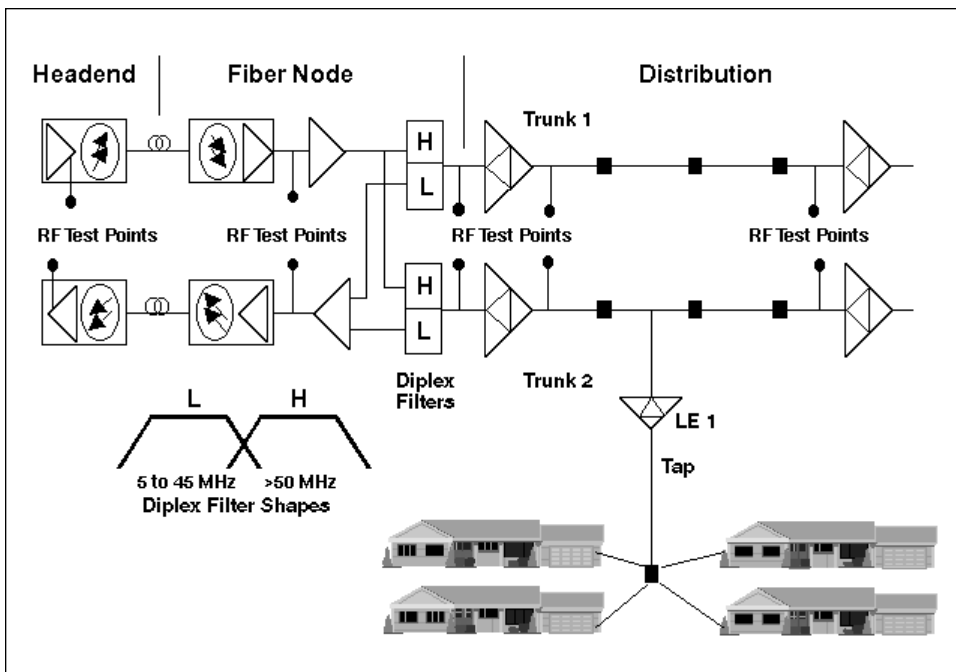

Figure 8. A typical HFC network showing typical RF test points.
**Headend Troubleshooting** – Connect the RFM151 to the RF Test Point at the fiber receiver in the Headend as shown in Figure 8. At this combined test point, you can observe all of the signals in
To isolate interference to a specific device in the tap distribution leg (see Figure 8), connect the RFM151 to the through output of the tap with an impedance matching probe. Impedance matching probes have a high-impedance side that goes on the seizure screw, and a low-impedance (75 Ohm) side that connects to the instru-